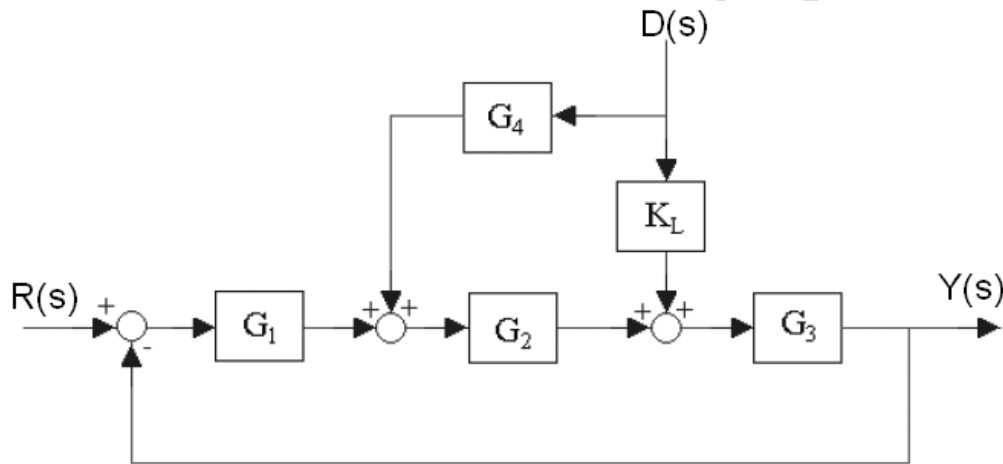

Figure Q1 (b) Automobile brake control system. Where $R(s)$ is the input, $D(s)$ is the disturbance and $Y(s)$ is the output.
- (b) An Automobile brake control system can be represented by the block diagram shown in Figure Q1(b). Using block diagram reduction techniques, find the following transfer functions for this control system.